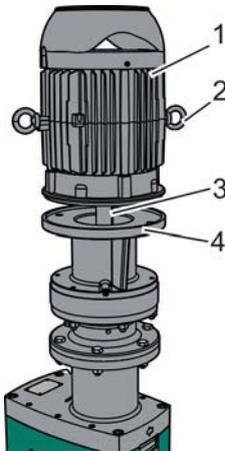

Fig. 84: Removing the drive from the gear, example
3. ➔ Disconnect the drive (Fig. 84/1) from the gear flange (Fig. 84/4) and carefully place to the side with the key (Fig. 84/3).